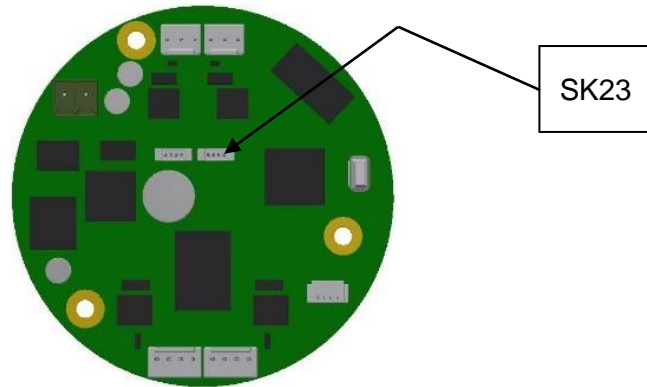

Figure 3-1 Gen 2 PCB
- Connect 1x 3-wire Programming lead to the Gen2 PCB, ensure the Programming lead is connected to Header SK23 for correct Data transfer. Refer to fig 3-1